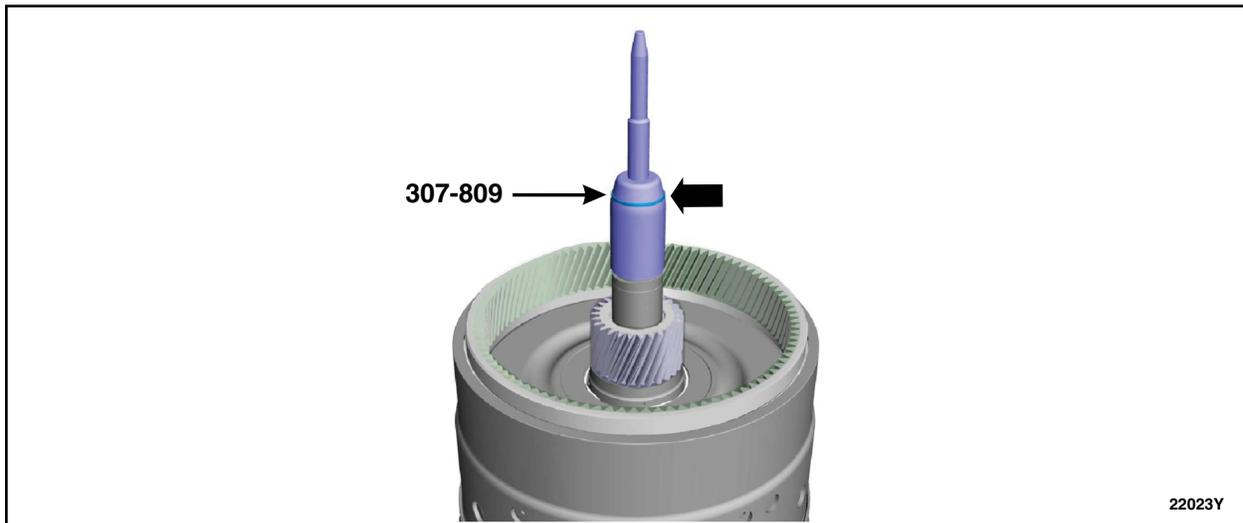

FIGURE 34
38. Install a *new* (F9) Teflon® seal on the Special Service Tool: 307-809 push & sizer, F0 Seal guide. See Figure 34.